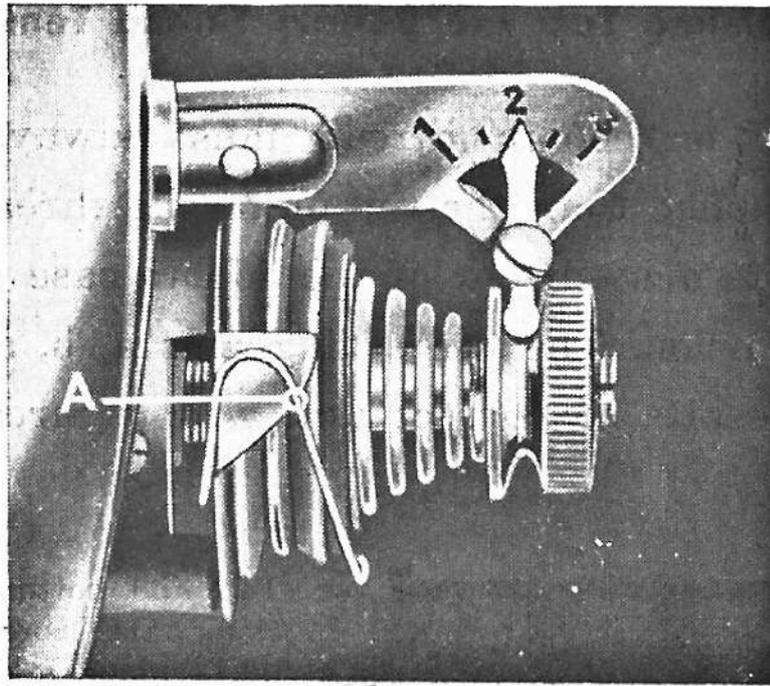

Fig. 8
2. Regulate thread tension. Set pointer on thread tension scale, Fig. 8, between $1\frac{1}{2}$ and $2\frac{1}{2}$.
1. Relax thread tension (set pointer on thread tension scale, Fig. 8, at 1 or $1\frac{1}{2}$).